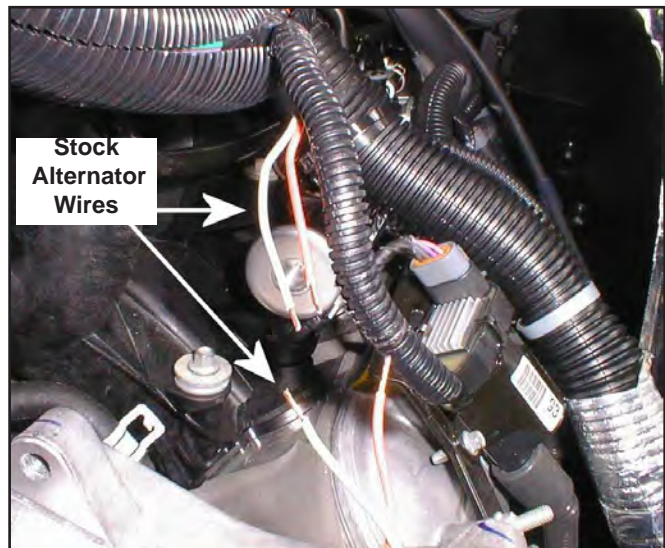

Figure 13. Routing Extended Wires
- a. First remove the tape and plastic split loom back to expose gray and orange wires. Cut the wires approximately 2" from the plug and install the orange and gray extension wires with the pink butt connectors provided in the kit. The extended wires can be routed inside the main wire harness that runs forward (see Figure 13).